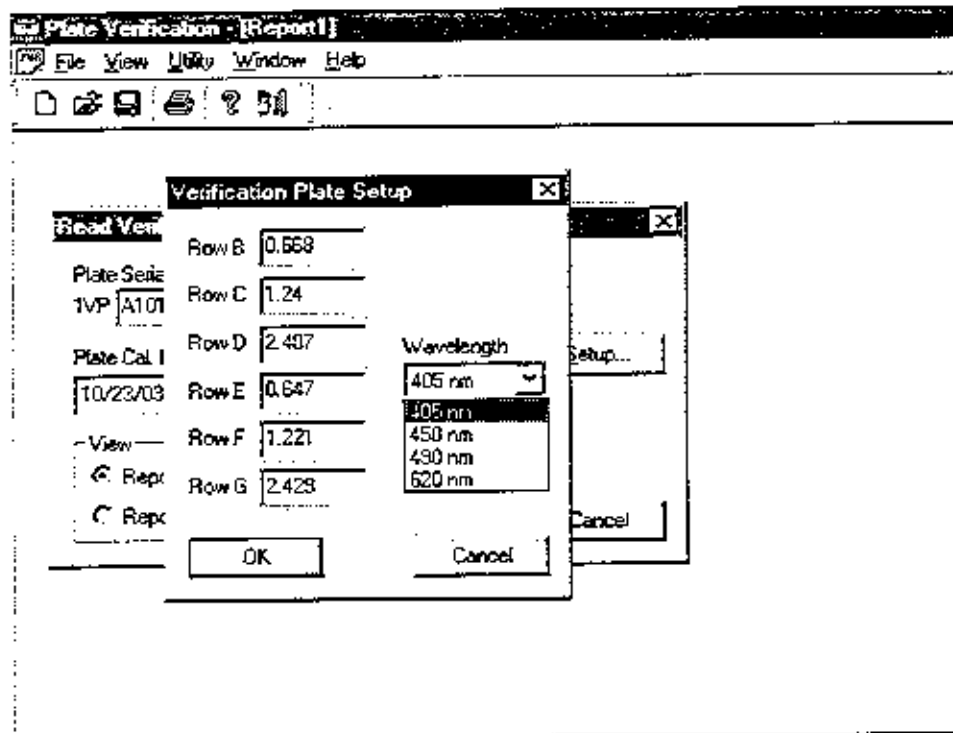

Figure 4, Verification Plate Set-up
- ❖ **Set up:** Using the calibration information from your certificate, enter this information into the appropriate section for each wavelength. *See Figure 4*